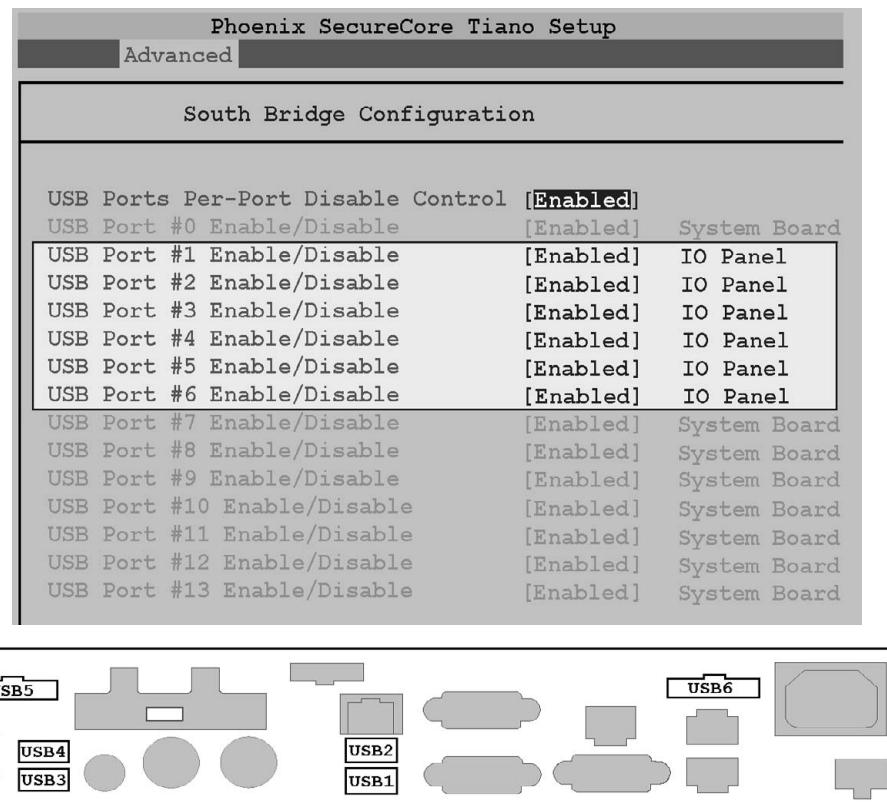

Figure 2-9: USB Per Port Enable/Disable USB1 - USB6
- The screen expands to show all 14 USB Ports as shown in the upper half of Figure 2-9. IO Panel Ports USB1 through USB6 are highlighted to distinguish them from System Board USB ports.